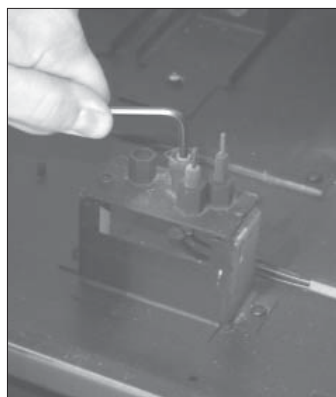

Figure 53: Removing the Pilot Orifice.
7. Insert a $\frac{5}{32}$ " or 4mm Allen wrench into the top of the pilot orifice. Remove it by rotating it counter-clock wise until it is free of the pilot assembly (Figure 53).